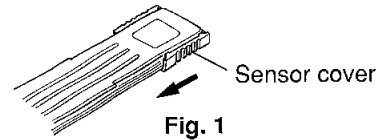

Fig. 1
2. If using a laser power meter, slide open the sensor cover (see Fig. 1).